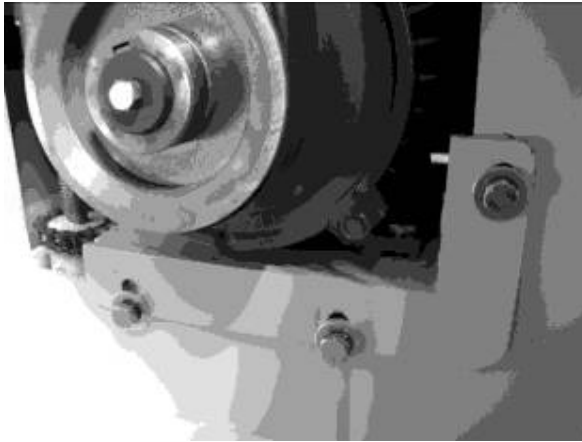

Figure 8
3. Loosen the three bolts (, Figure 8) that hold the motor support bracket to the frame.